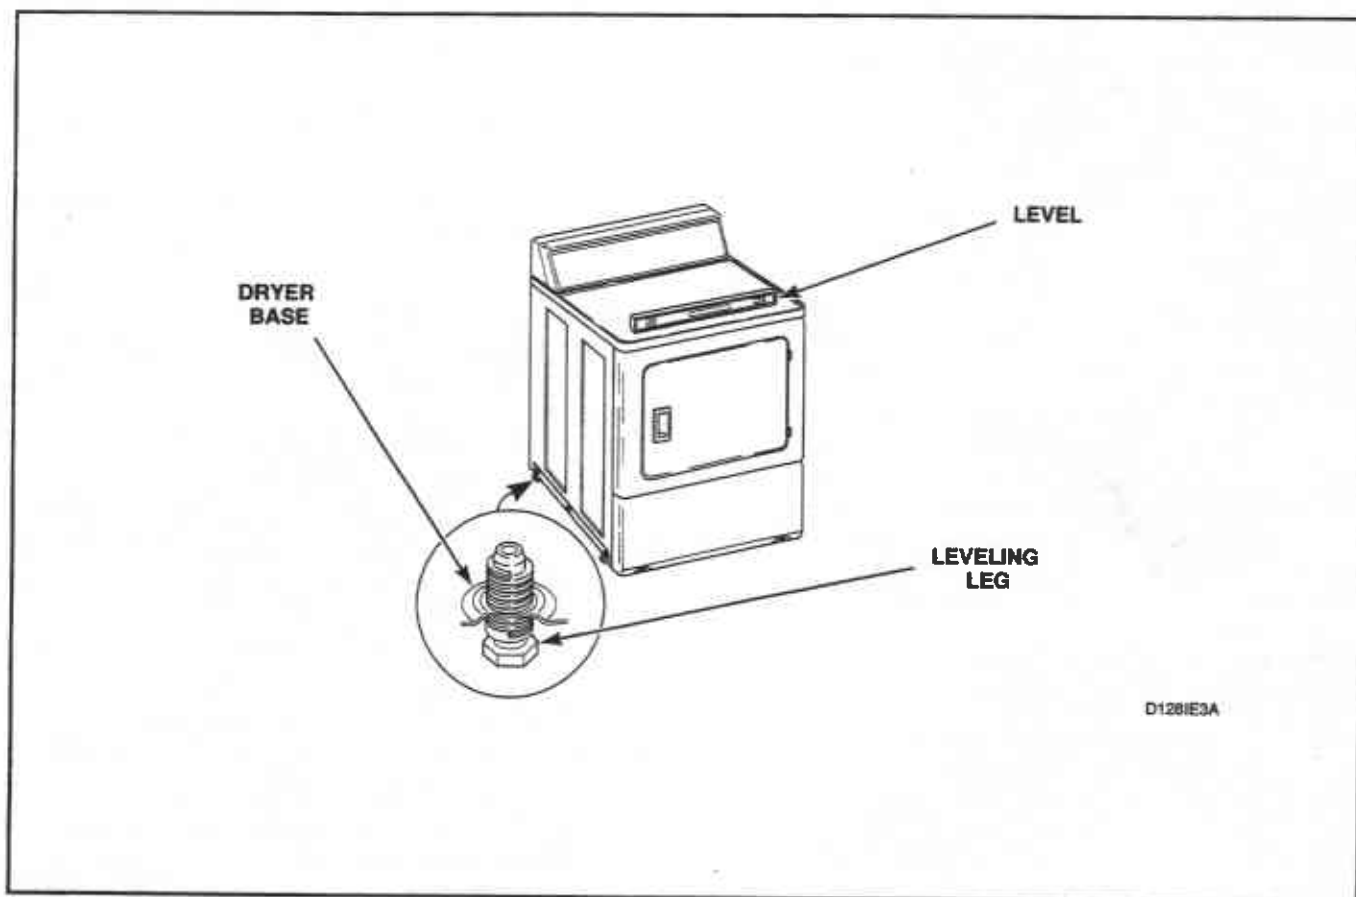

Figure 41
- Remove leveling legs from base and reinstall on new base, *Figure 41*.
41. LEVELING LEGS (Figure 41)